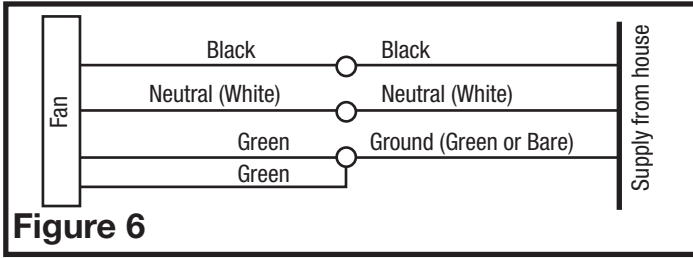

Figure 6
- Pull the loose black, white and green wires out from the wire compartment (additional wires will be present). Install an approved electrical connector to the wire compartment cover (not included). Run a black (hot), white (neutral), and a green or bare ground wire from the supply through the electrical connector. Connect all wires from the supply to their corresponding wires within the wire compartment (**Figure 6**). Use approved methods for all connections.